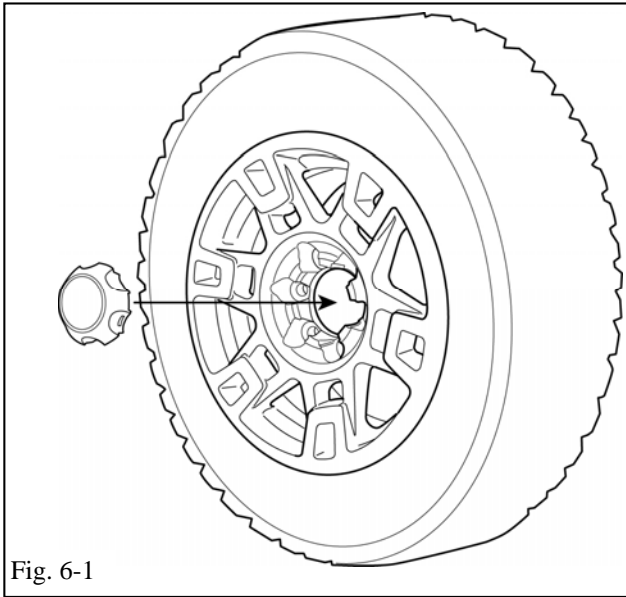

Fig. 6-1
- (a) Install the TRD center caps onto the 2 front wheels (Fig. 6-1).